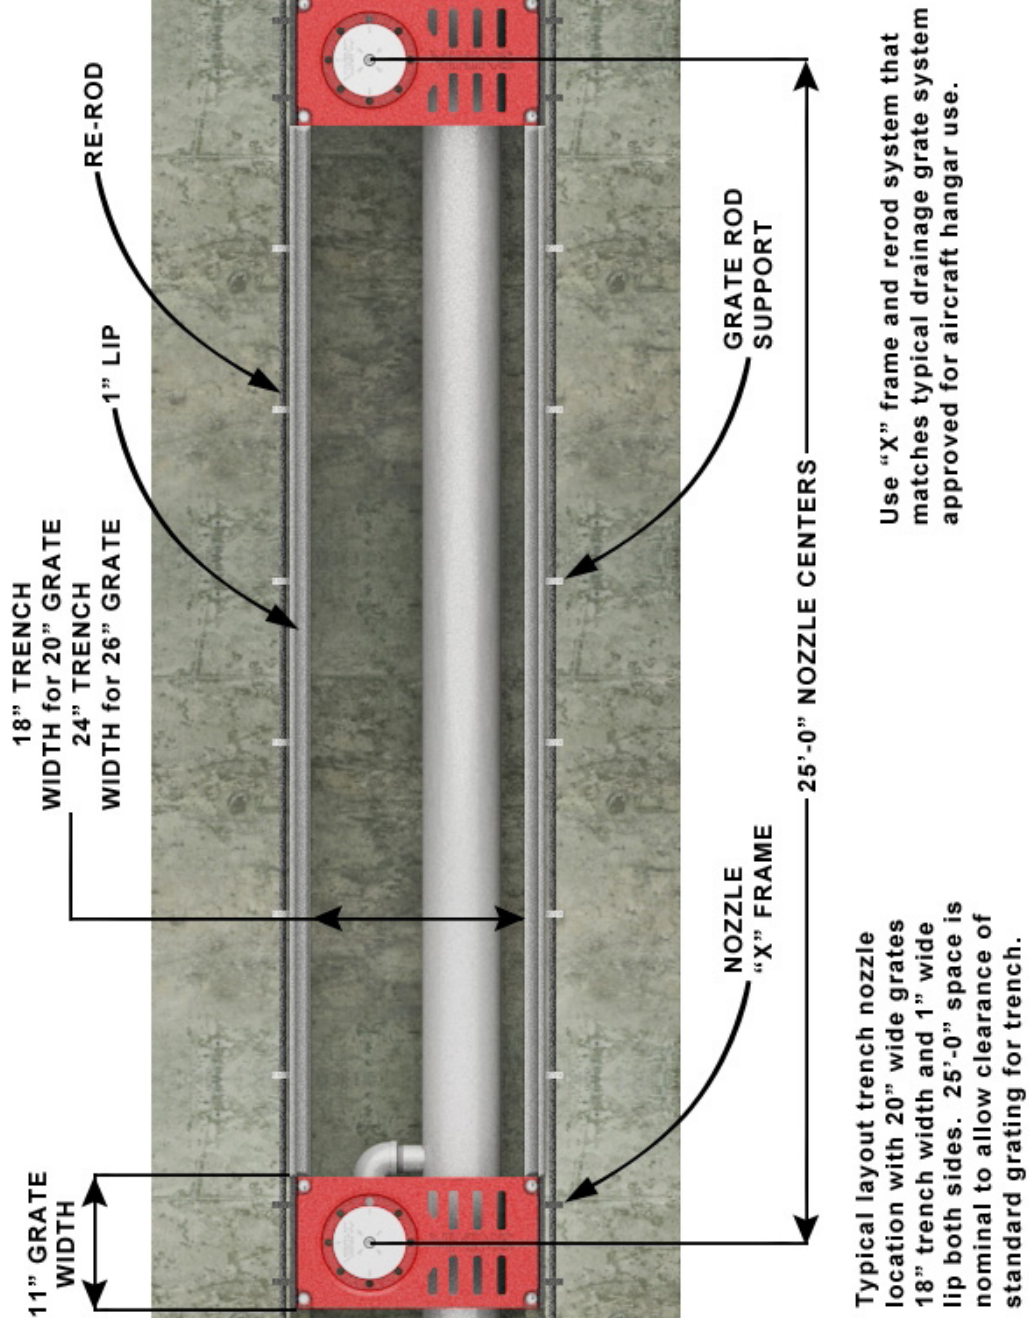

Figure 3
(Refer to Figures 3 & 4 for illustration of Grate Nozzle in trench drain grate) del GN200/180: 12 (17.3 metric)
2. Trench drains will vary in length due to hangar dimensions, but the trench length shall be such that a Grate Nozzle can be located half of its maximum dimension to a wall. (Refer to Figure 3).